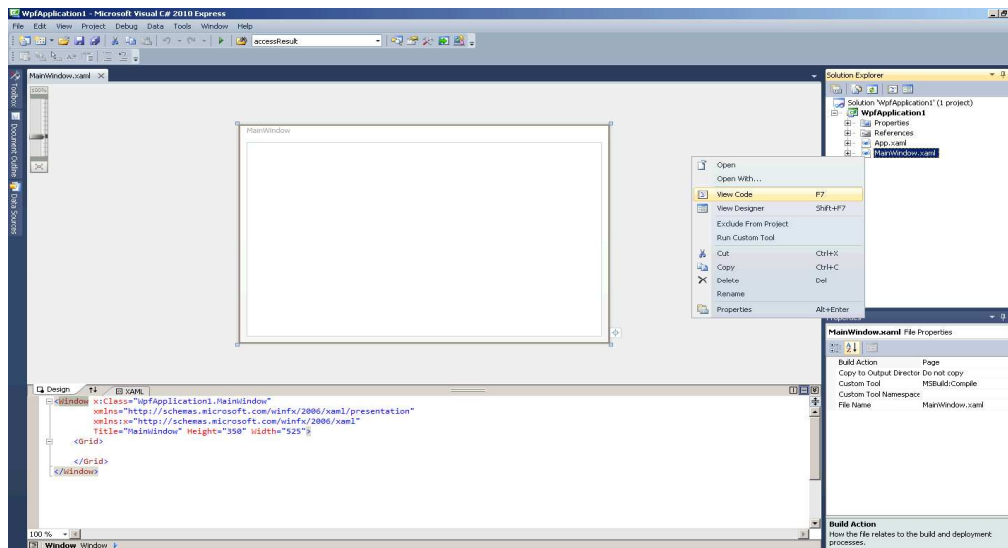

Figure 11 WPF Code form
1. Create a new project by selecting **WPF Application**. See Figure 11. Do not create a Console Application.